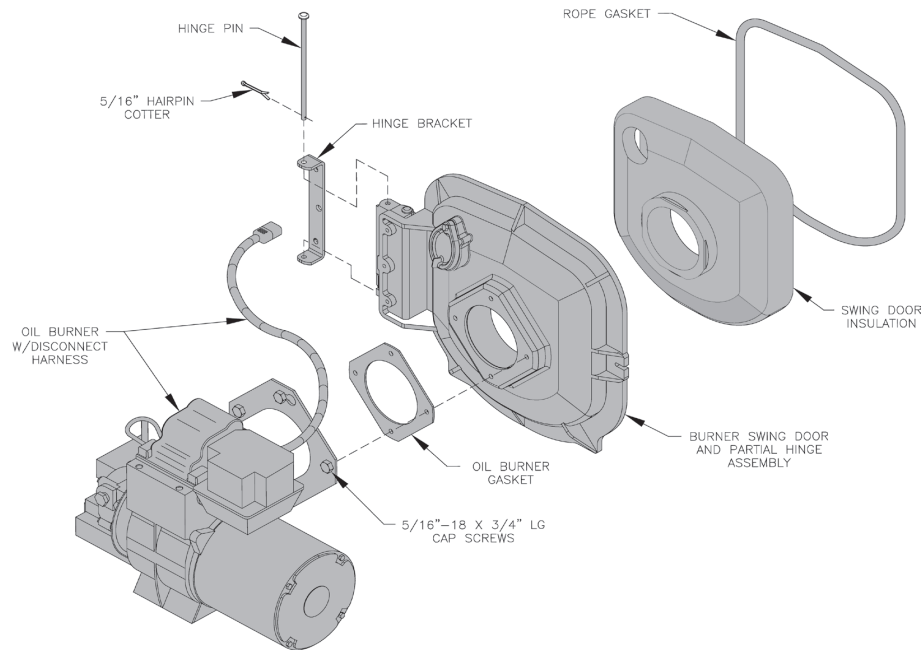

Figure 7: Oil Burner Installation (Beckett Burner Shown)
1. Remove burner swing door and hinge assembly. Remove one (1) 5/16"-18 flange nut and washer from right side latching stud and one (1) 5/16"-18 x 3 1/2" cap screw on left side used for securing burner swing door to the boiler section. Swing door open and remove 5/16" hairpin cotter from rear hinge pin (see Figure 7). While holding swing door remove hinge pin and set door aside. Remove two (2) 5/16"-18 x 3/4" long cap screws securing the hinge bracket to the boiler section.
(See Figure 7).